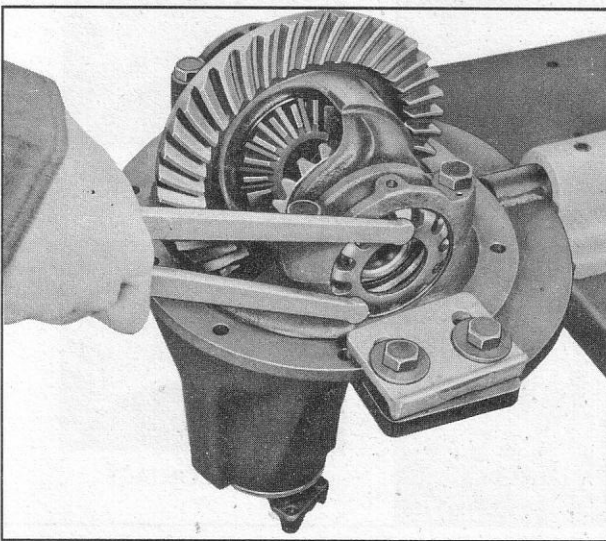

Fig. 28—Adjusting Ring Gear and Pinion
3. Tighten right hand nut a minimum of one additional notch to maximum of two notches further to a locking position (fig. 28). This operation preloads the differential bearings.